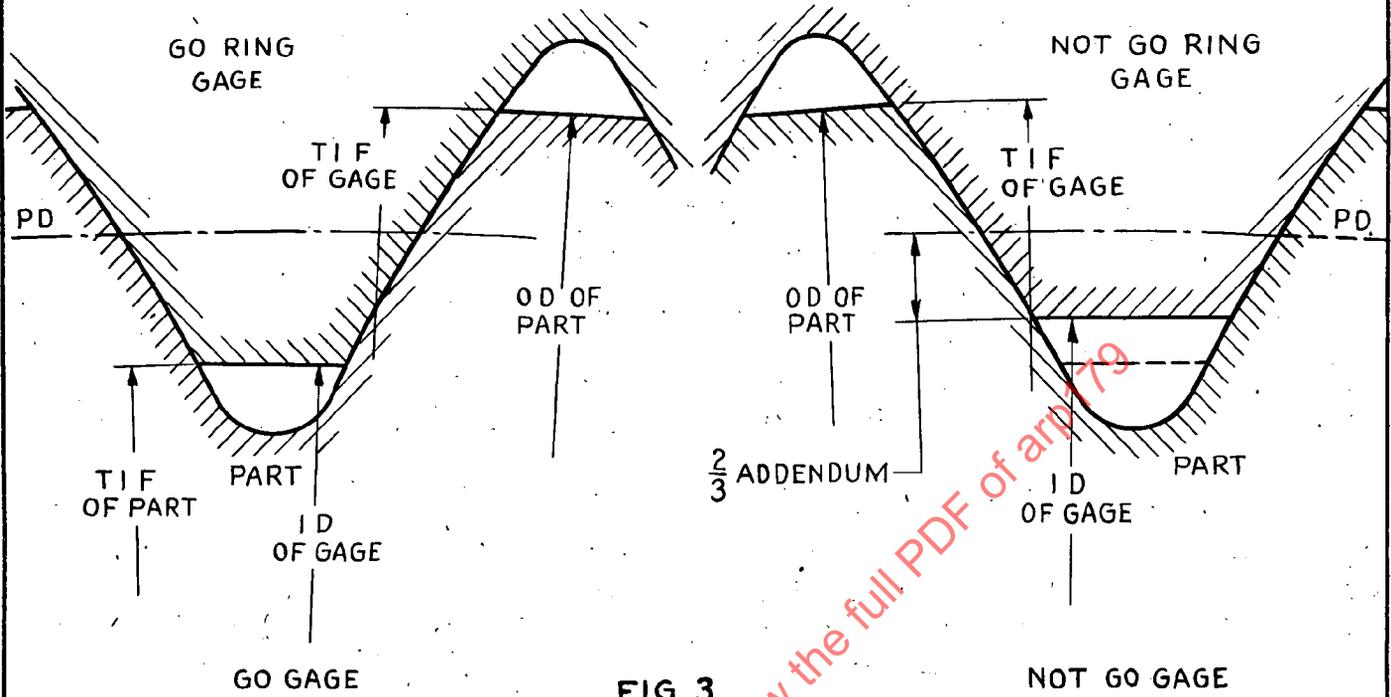

FIG 3 RING GAGE
- B. Figure 3 shows the relationship of the ring gage to the external spline it is to check.
- G. A "Not Go" gage, to be effective, can check but one element. A "Not Go" gage made to check the chordal tooth thickness or chordal space at the pitch diameter is usually sufficient for practical purposes. In order that the "Not Go" gage may check at the pitch diameter, it is necessary to have a short addendum so that the inside diameter of the "Not Go" ring gage is greater than the inside diameter of the "Go" ring gage and the outside diameter of the "Not Go" plug gage is less than the outside diameter of the "Go" plug gage. The addendum of the "Not Go" gages shall be approximately $\frac{2}{3}$ of the addendum of the part. (See Figures 3 and 4)